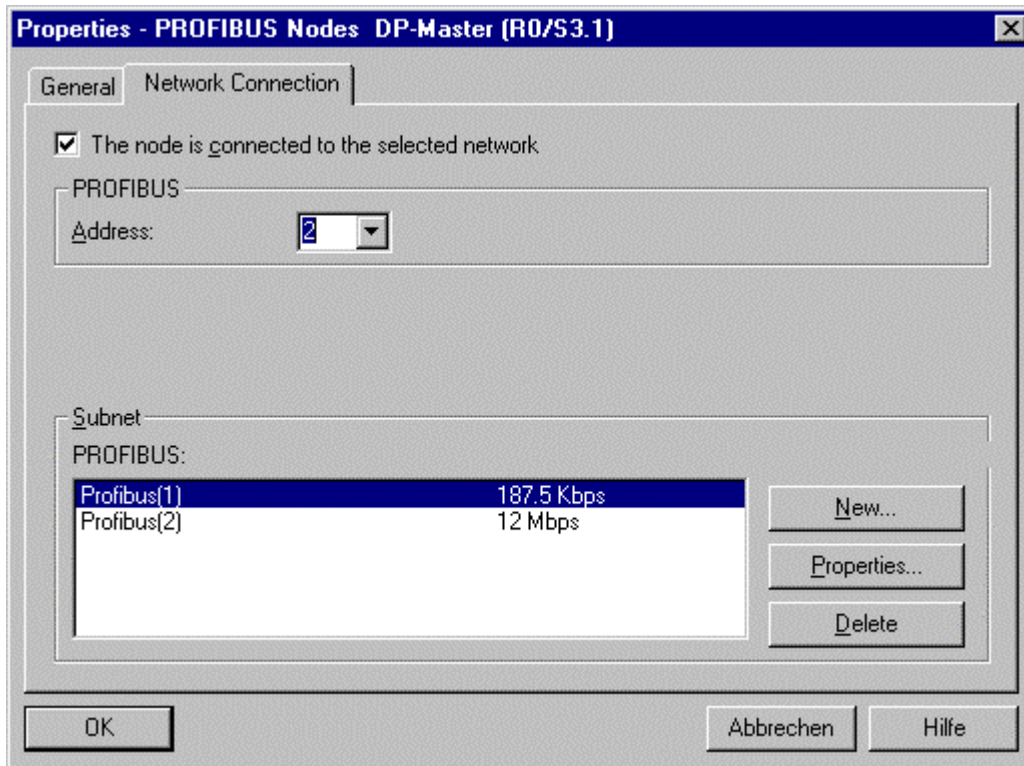

Figure 1
- Configure a DP master system (e.g. CPU 414-2 DP) and set the user address of the DP master to 2 with a transfer rate of 187.5 Kbits/s (Figure 1).